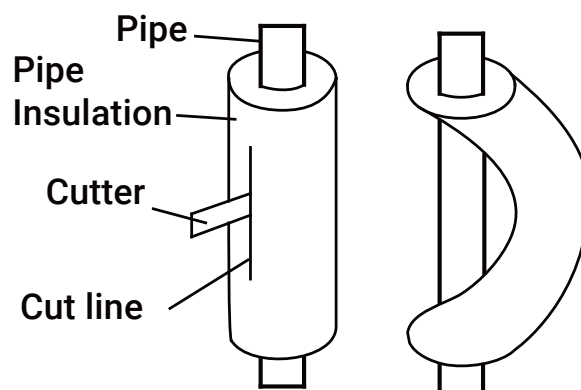

Fig. 2.16
3. As shown in **Fig. 2.16**, use a sharp cutter to cut the pipe insulation and bend the pipe after it is exposed. After bending the pipe to the desired angle, place the insulation back on the pipe and secure it with adhesive tape.